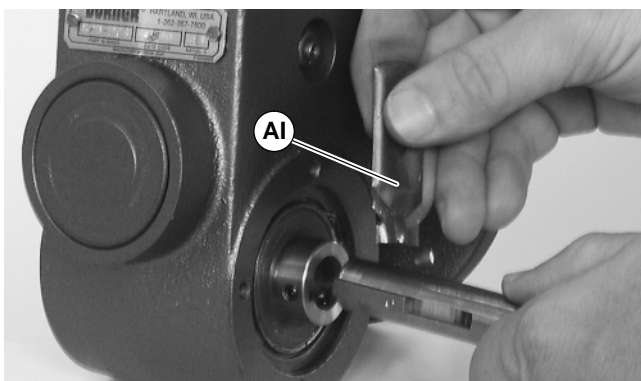

Figure 16
6. Remove two (2) screws (AC) and detach output shaft cover (AD).
7. Remove gear reducer output shaft key (AE).
8. Apply Loctite[®] 680 Adhesive (AI of Figure 16) to new shaft.